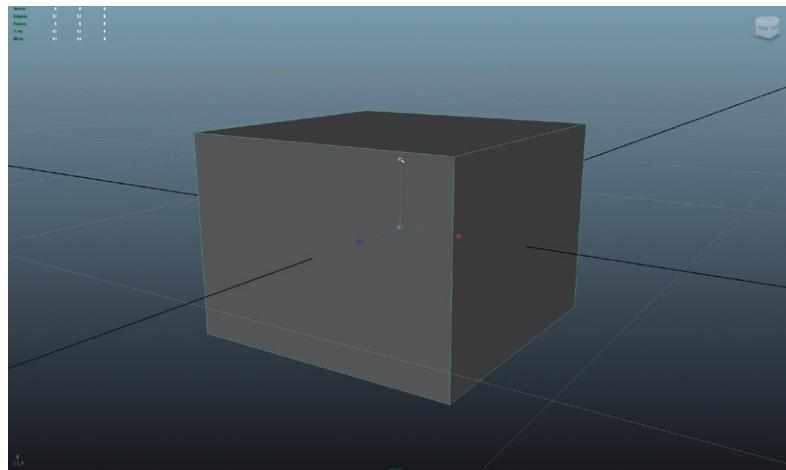

FIG. 3.45 Roughing out the general shape of the main drawer compartment.
Step 2: Create and scale a new cube to approximate Fig. 3.45. Do this in Object Mode with the Scale Tool.